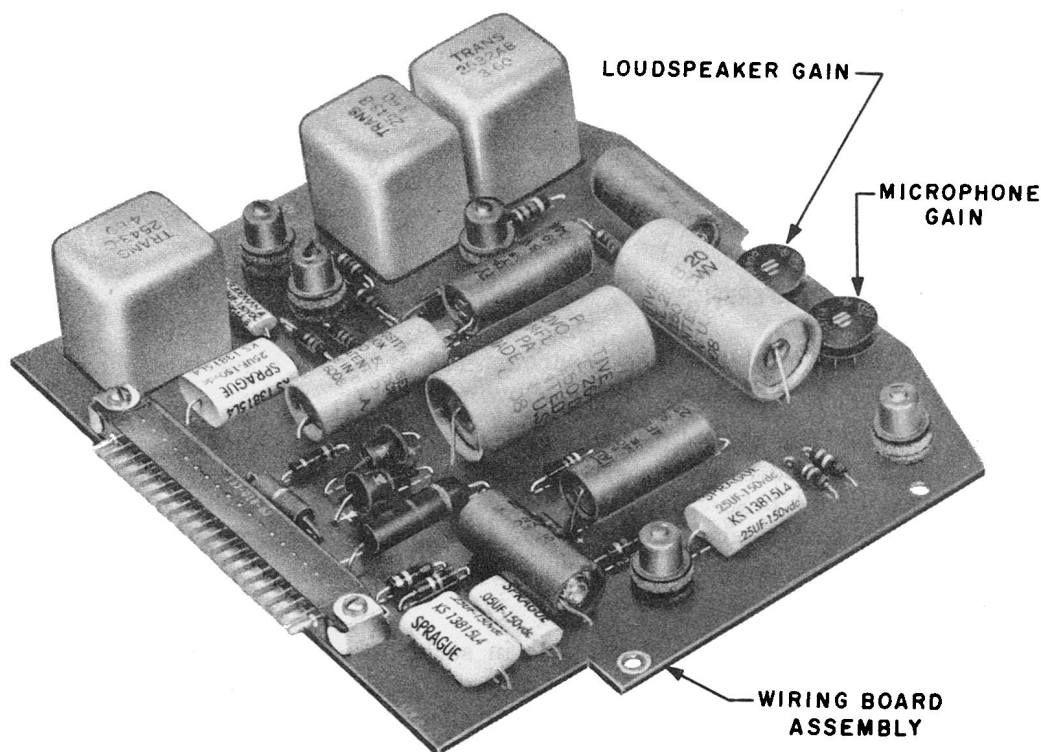

Fig. 8 — Amplifier Gain Controls
4.02 Turn microphone and loudspeaker amplifier gain controls to their maximum counter-clockwise (minimum gain) position (see Fig. 8).